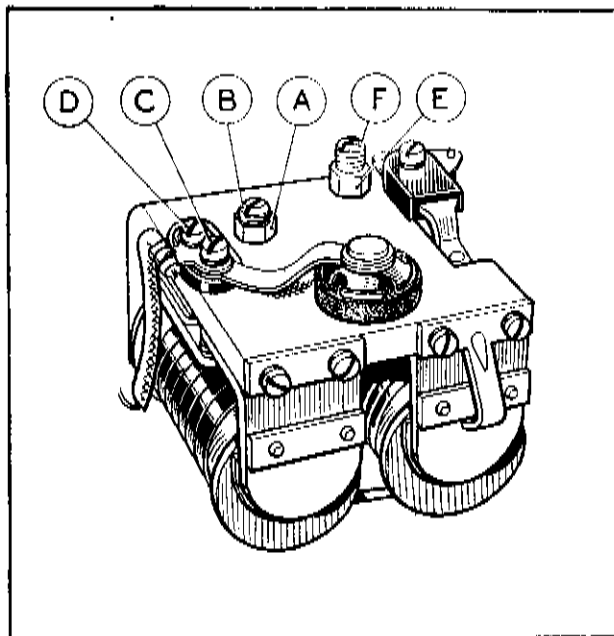

Fig. 5.
Refer to Fig. 5 and release locknut (A) holding adjusting screw (B) and turn the screw in a clockwise direction to raise the setting, or in an anti-clockwise direction to lower the setting. Turn the screw a fraction of a turn only at a time and then tighten the
After long periods of service it may be found necessary to clean the regulator contacts. These are made accessible by slackening the screws securing the plate carrying the fixed contact. It will be necessary to slacken the upper screw (C) a little more than the lower (D) so that the contact plate can be swung outwards (see Fig. 5). Clean the contacts with fine carborundum stone or fine emery cloth.